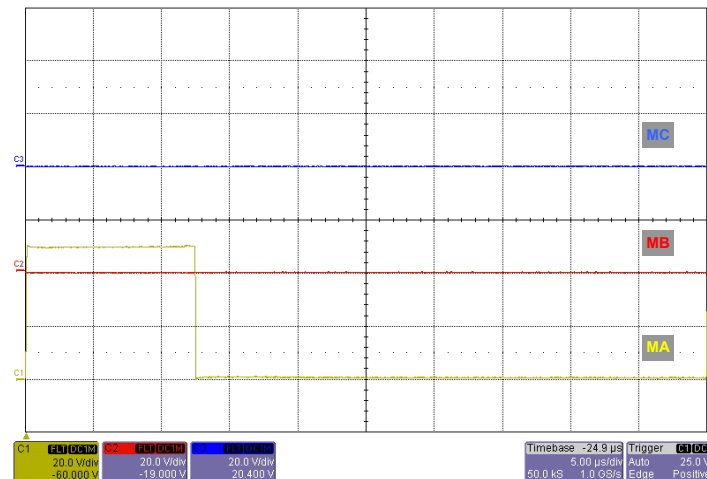

Figure 4. Waveforms on MA, MB, and MC with HA Grounded
2. While the HA input is grounded, observe the following waveforms in Figure 4, on the MA, MB, and MC terminals.